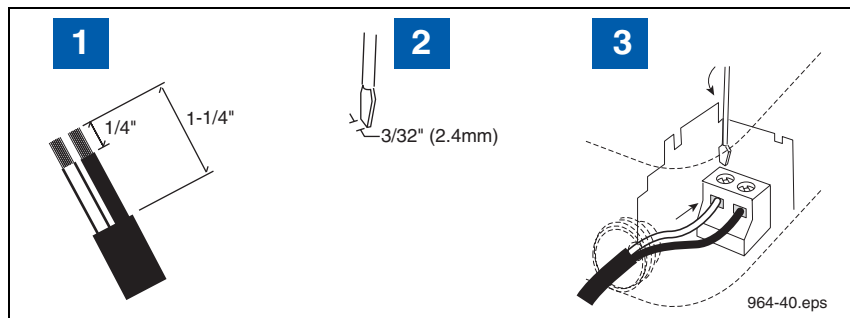

Figure 4. Connecting Wiring To Device Terminal Blocks
- d. Strip back the cable jacket and wires as shown in Figure 4.
LEGEND FOR NUMBERED BOXES IN Figure 4
| <ul style="list-style-type: none">1. Connect the shield of the RS-485 cable to the ground lug.2. Cord grip3. RS-485 cable to Receiver4. Power side5. Intrinsically-safe side6. NOTE: Attach one end of RS-485 cable to the RS-485 terminals in the TLS RF and other end to the RS-485 terminals in the Receiver. One twisted pair connects to terminals - and + (RS-485 signals) and the second twisted pair connects to terminals +15 and G (Receiver power). | <ul style="list-style-type: none">6 (Cont'd.). Connect each of the four wires to the same terminals in the Receiver (ref. Figure 32).NOTE: see Figure 4 for wire connection tips.NOTE: In sites with more than one TLS RF, the Receiver is only connected to the master TLS RF. |